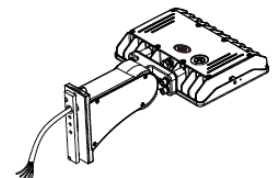

Fig. 12
3. Pass the cable through the second half of bracket and lock together (Fig. 12)